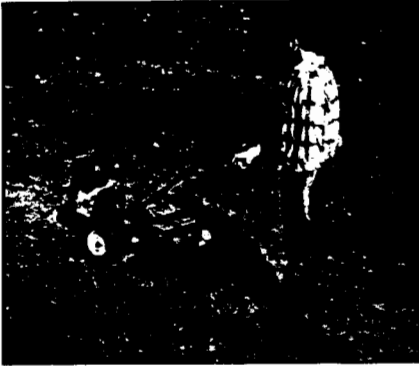

Figure 4-2: Use one hand to guide tiller when moving forward.
- (b) As the tiller moves forward, relax and let the wheels pull the unit along while the tines dig. Walk behind and a little to one side of the tiller. Use a light but secure grip with one hand on the handlebars, but keep your arm loose. See Figure 4-2. Let the tiller move ahead at its own pace and do not push down on the handlebars to try and force the tiller to dig deeper – this takes weight off the wheels, reduces traction, and causes the tines to try and propel the tiller.